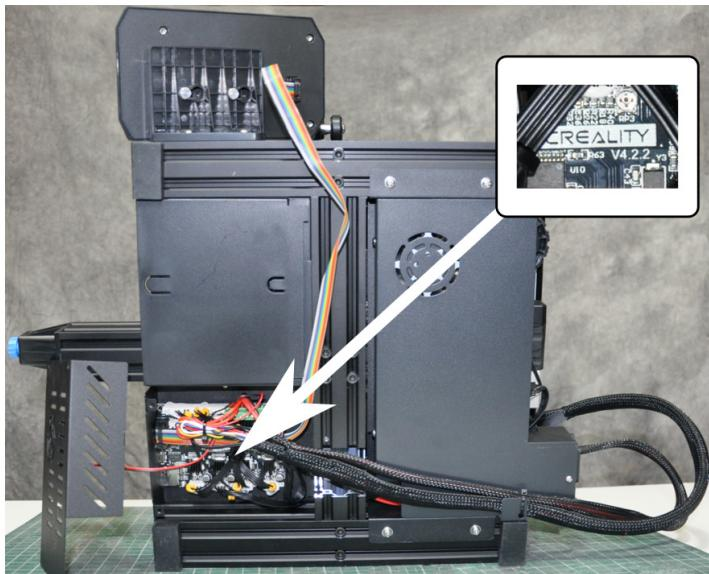

Figure 1.15 – Finding the board number on our Ender 3 V2
2. Place the Ender 3 V2 on its side and observe the board number. See *Figure 1.15* to find this: